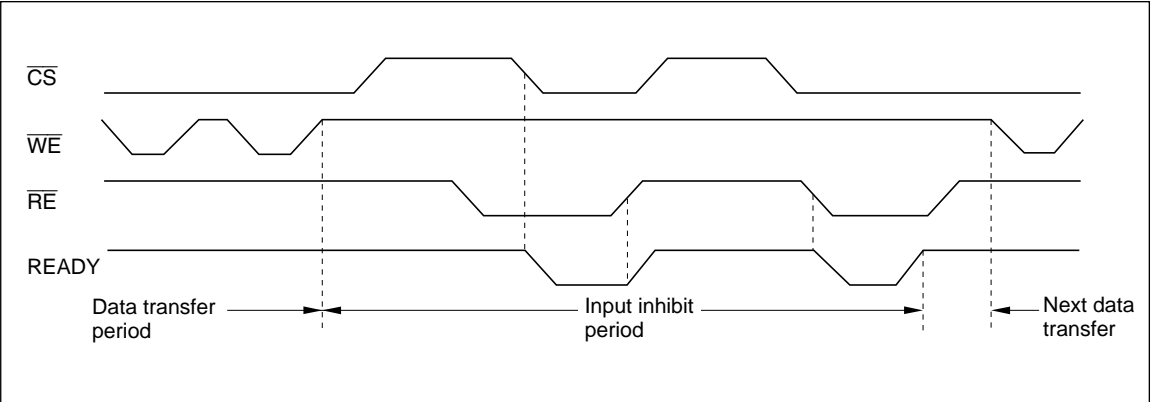

Figure 13 READY Output Timing (When It Is Made Available by $\overline{\text{CS}}$ and $\overline{\text{RE}}$)
- b. READY is mode available by $\overline{\text{CS}}$ and $\overline{\text{RE}}$ (figure 13).